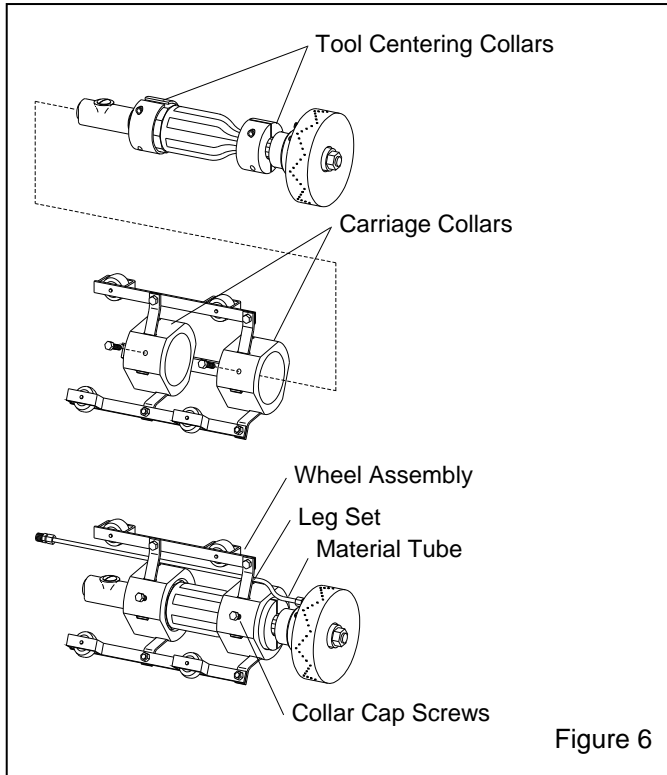

Figure 6
2.2.4 SK-1236 with 12" to 36" carriage, refer to Figure 6
2.2.4.1 Insert the tool into the carriage, as shown in Figure 6; align the material tube's compression nut with